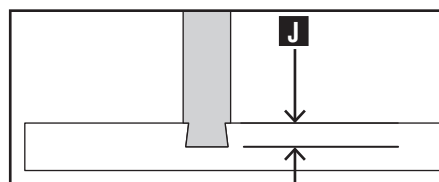

Fig. H8
NOTE: Do not select a router bit depth (J) Fig. H8 that is greater than half your dado board thickness.